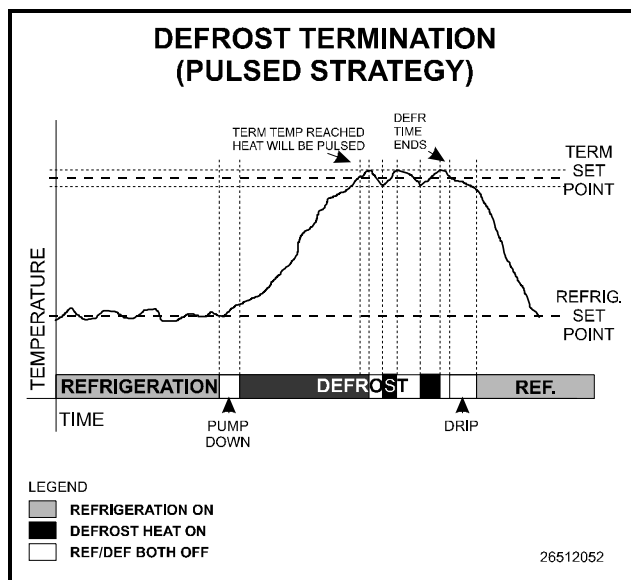

Figure 11-4 - Defrost Termination (Pulsed)
**Figure 11-4** illustrates what happens in a pulsed defrost cycle. In this example, the case reaches its termination temperature approximately 2/3 of the way into its defrost cycle. Defrost continues, but defrost heat is turned OFF until the temperature falls below the setpoint, at which point the heat is turned back ON.